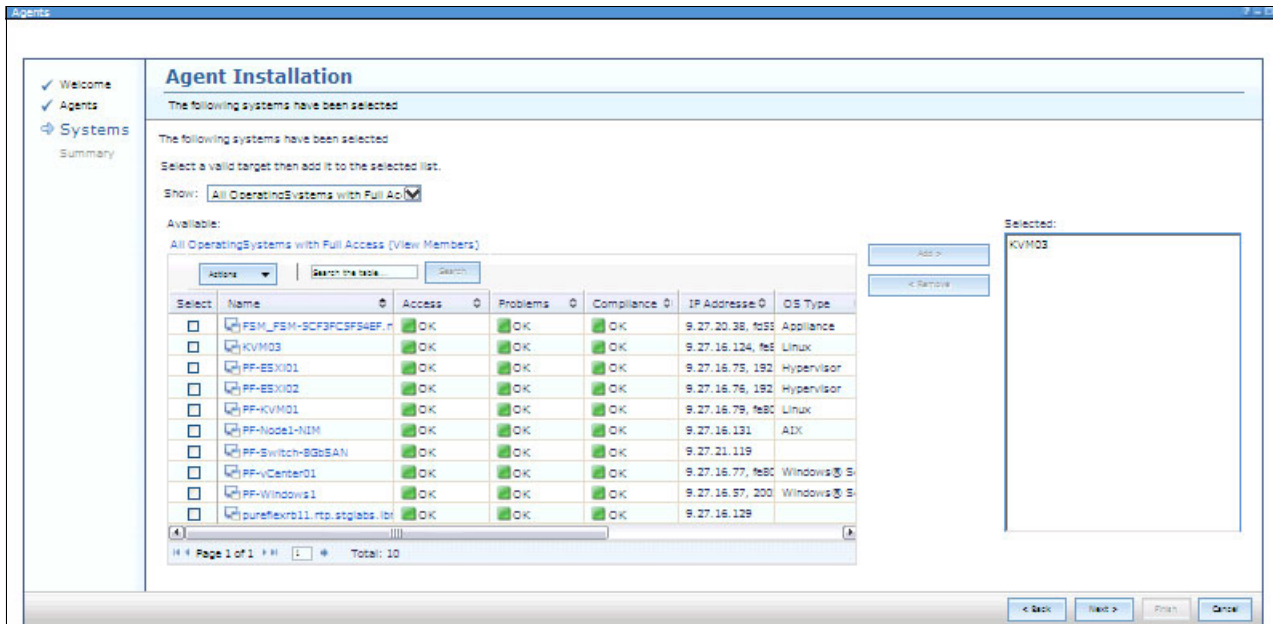

Figure 9-36 Select image repository host operating system target
- Select your future image repository system, which is an object type Operating System Linux as shown in Figure 9-36, then click **Next**.